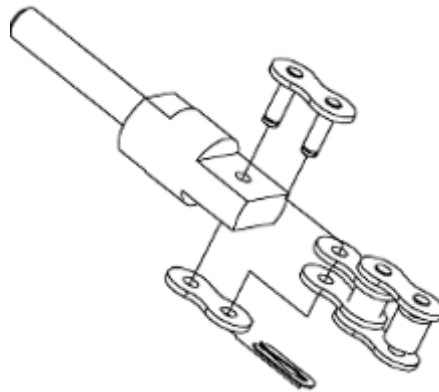

Figure 17 Connecting Chain to Tensioning Block
E. INSTALLING CHAIN EQUALIZATION SYSTEM (Reference Figures 17 - 24)
2. Find the boxes of chain & master links, lay out on a clean surface. Assemble/Cut to four (4) equal lengths – then cut each of these in half for splicing when attaching to the lift.
3. Using the hardware provided, attach a chain tensioning block to one end of each half-chain as shown in **Figure 17**.